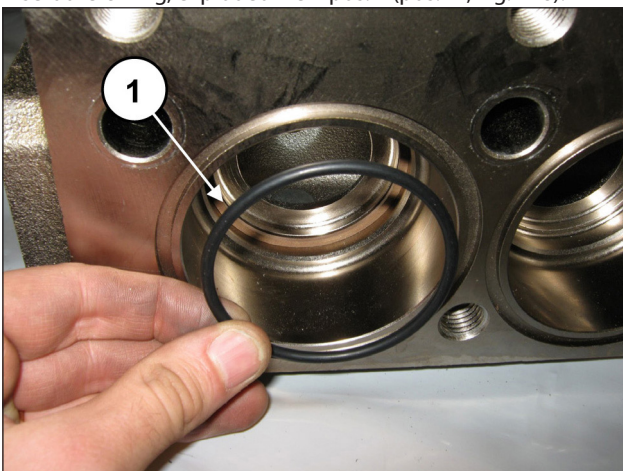

Fig. 148
Insert the O-ring, exploded view pos. 7 (pos. ①, Fig. 148).